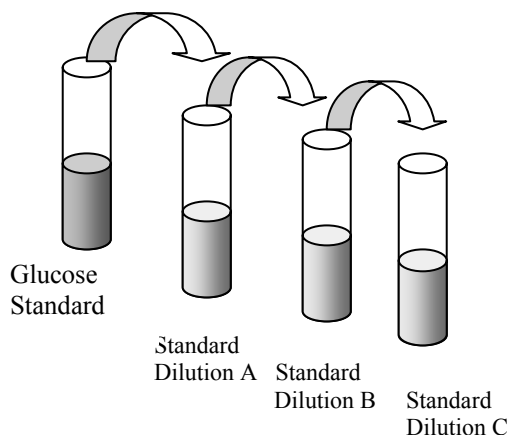

Fig. 2-3. Illustration of the dilutions made.
1. First you will make several dilutions of a glucose standard solution that has an initial concentration of 500 mg/dl of glucose. See Fig. 2-3.